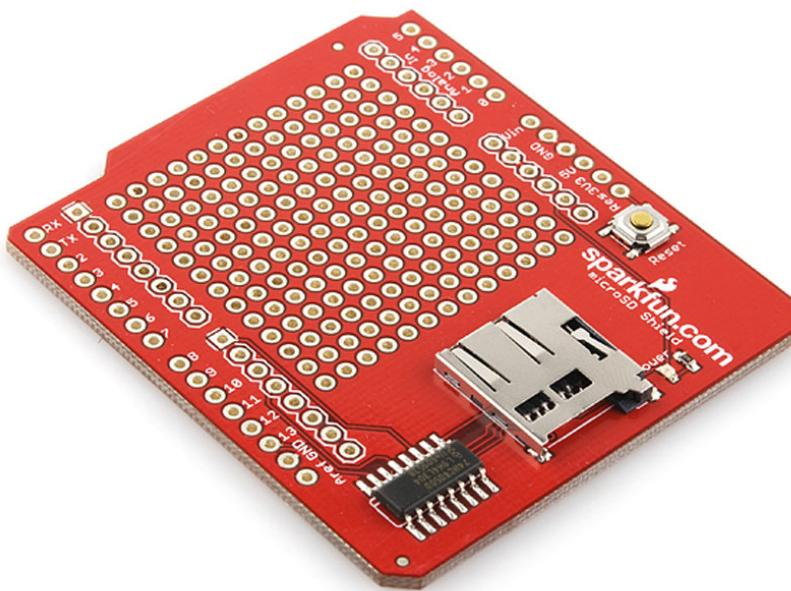

Figure 13-12: SparkFun MicroSD shield
- **SparkFun MicroSD shield** (www.exploringarduino.com/partssparkfun-microSD-shield): This shield is, like the Cooking Hacks shield, is a minimalist shield that only has an SD card slot. However, it also has a prototyping area to allow you to solder on additional components. It connects the SD card's CS pin to pin 8 on the Arduino, so you must specify this when using the SD card library with this shield (see Figure 13-12).